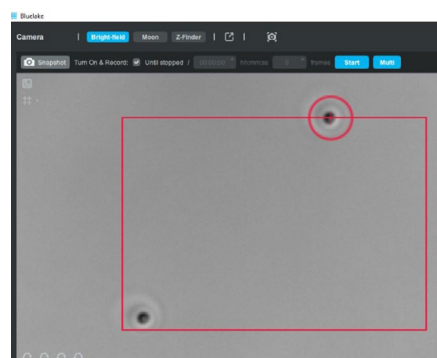

Figure 1
- Select “Trap 1” and activate “Show Trap 1 overlay” option to display its range of motion of Trap 1 (red rectangle in Figure 1).